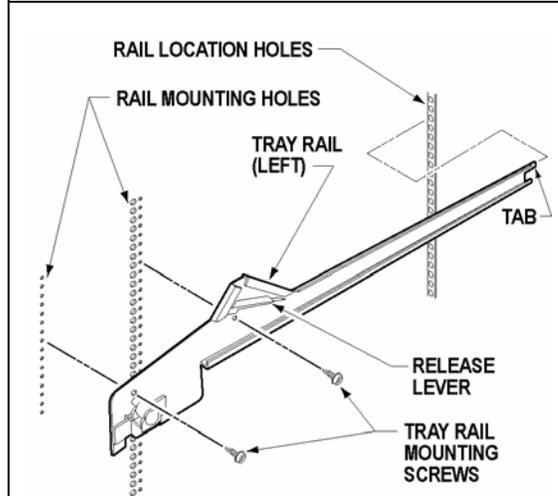

Figure 6b. Tray Rails
5. Locate the release lever on the left and right tray rails. See Figure 6b. Swing the release levers all the way up to unlatch.
- B. Pull each rail forward to disengage its rear tab from the hole in the rear wall. See Figure 6b.